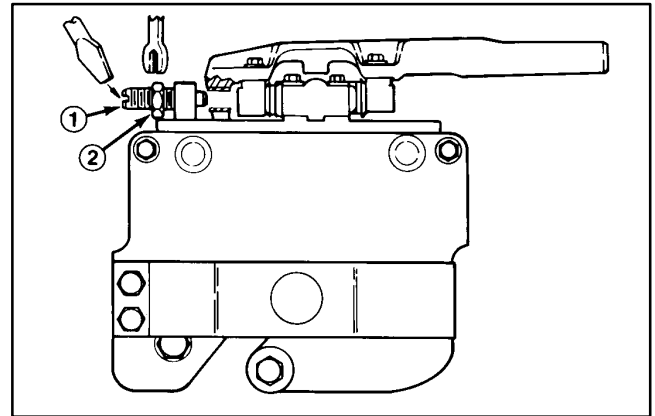
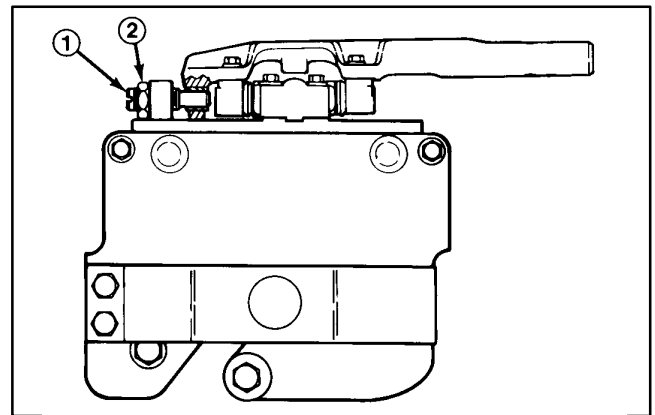

Figure 6
Figure 7
A. Start engine and lower the cutting unit onto a flat surface such as a piece of 3/4-inch (1.9 cm) plate steel of at least 20 x 30 inches (50 x 76 cm). Stop engine and remove key from ignition switch. Lock cutting units in the fixed position by loosening the jam nut on the lockout pin (Fig. 6) and screwing the pin into the hole in pivot arm (Fig. 7). Tighten nut to secure lockout. Raise front rollers up so they do not contact the flat surface.
E. Loosen lockout pin so cutting unit can float freely (Fig. 6).